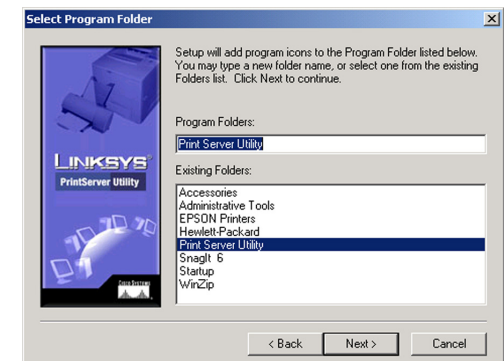

Figure 8-4: Select Program Folder
5. The next screen to appear is Select Program Folder, shown in Figure 8-4. An icon will be added to the program folder listed. You may change the name for the program folder, if you wish. Click **Next**.